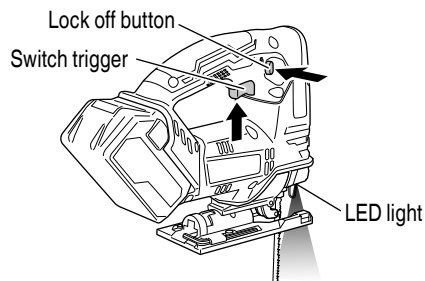

Fig. 19
2. How to use the LED light (Fig. 19)